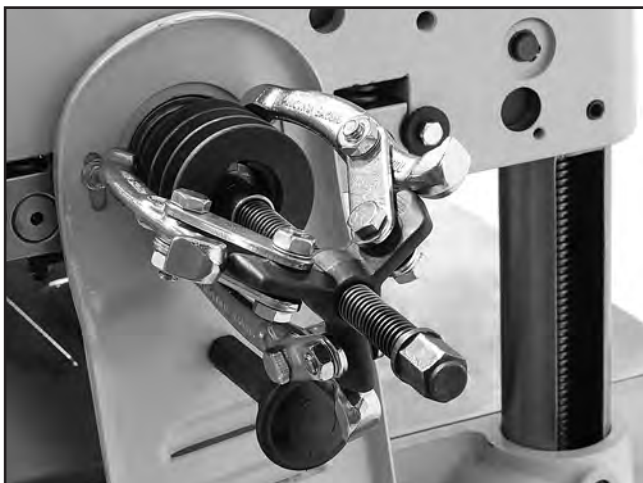

Figure 2. Using a pulley puller.
7. Remove the pulley and key. If the pulley is difficult to remove, use a pulley puller, as shown in **Figure 2** (see **Page 6** of this instruction sheet if you do not have a pulley puller).